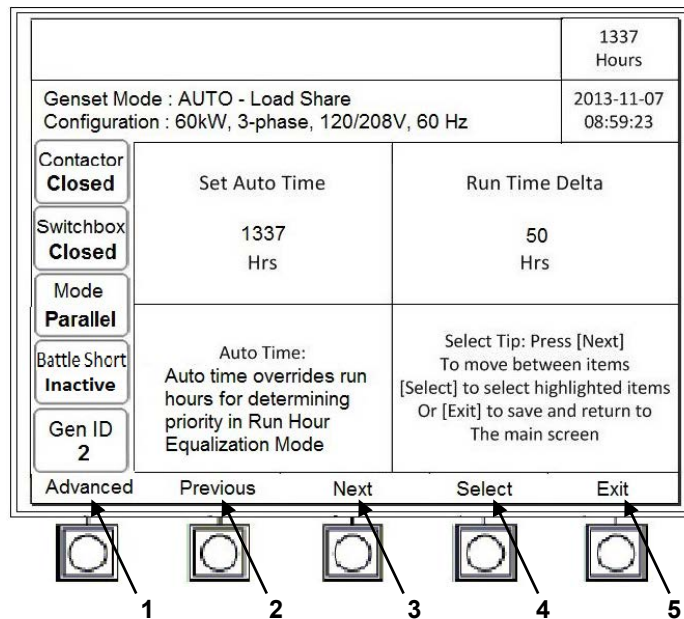
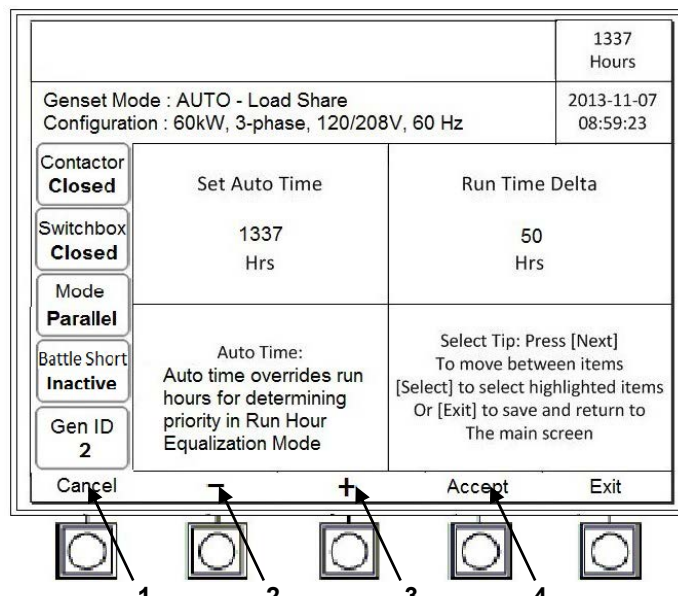

Figure 4-14. Run Hours Priority Screen
Figure 4-15. Run Hours Priority Select Screen
gg. Verify settings displayed on [Run Hours Priority] screen (figure 4-14). If no adjustments are desired, proceed to step mm.
hh. Press [Previous] (figure 4-14, item 2) or [Next] (figure 4-14, item 3) to highlight areas for selection.
ii. Once desired area is highlighted, press [Select] (figure 4-14, item 4).
jj. Press [+] (Figure 4-15, Item 3) or [-] (figure 4-15, item 2) and [Next] to adjust parameter.
kk. Once parameter is adjusted, press [Accept] (figure 4-15, item 4).
mm. Press [Exit] (figure 4-14, item 5) to return to [Auto Mode Main Screen] screen (figure 4-15).